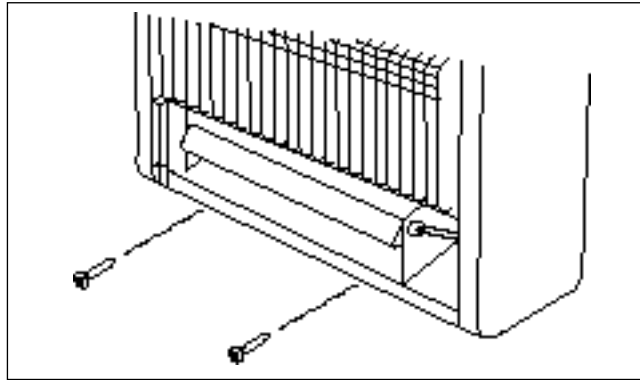

Figure 5
1. Locate two bottom mounting holes. These holes are near bottom on back panel of heater (See Figure 5.).